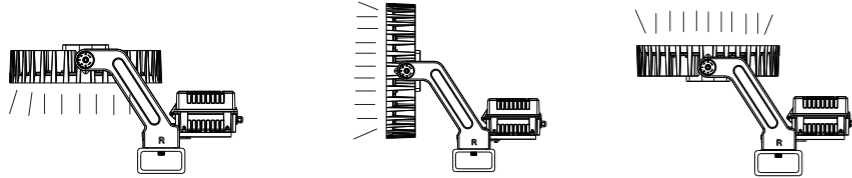

Figure 10
5. According to the need, adjust the projection angle/angle adjustment range (Figure 10);